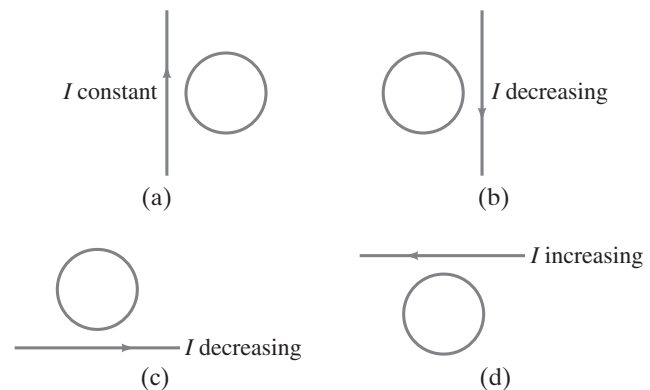

FIGURE 21-61 Problem 11.
- (II) A circular loop in the plane of the paper lies in a 0.65-T magnetic field pointing into the paper. The loop's diameter changes from 20.0 cm to 6.0 cm in 0.50 s . What is (a) the direction of the induced current, (b) the magnitude of the average induced emf, and (c) the average induced current if the coil resistance is 2.5Ω ?
- (II) What is the direction of the induced current in the circular loop due to the current shown in each part of Fig. 21-61? Explain why.